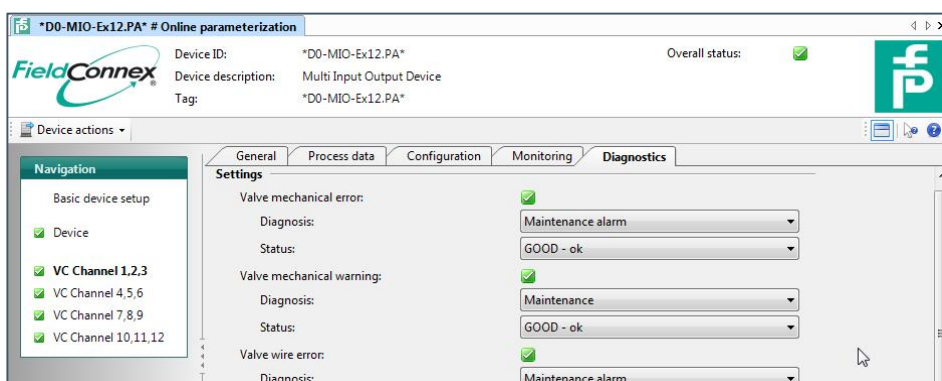

Figure 60: Setting parameters of device online
- 3) Manipulate the parameters as necessary (see: Figure 60: Setting parameters of device online).